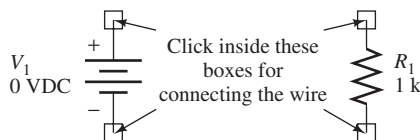
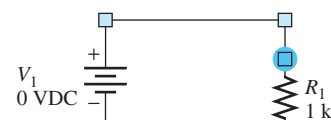

FIGURE 2.65 Empty square boxes of voltage source and resistor.
FIGURE 2.66 Colored circle for connection confirmation.
7. To connect the voltage and resistor, click “Place” > “Wire,” or the icon  on the vertical bar to the right. Left-click inside the square box of the voltage source (shown in Figure 2.65) to create the connection between the voltage source and the wire. For the other end of the wire, click on the empty square box of the resistor to create a connection between the voltage source and the resistor. A colored solid circle will appear during the connection if it is connected properly (shown in blue in Figure 2.66). Right-click and choose “End Wire” after connecting the wire to the resistor.